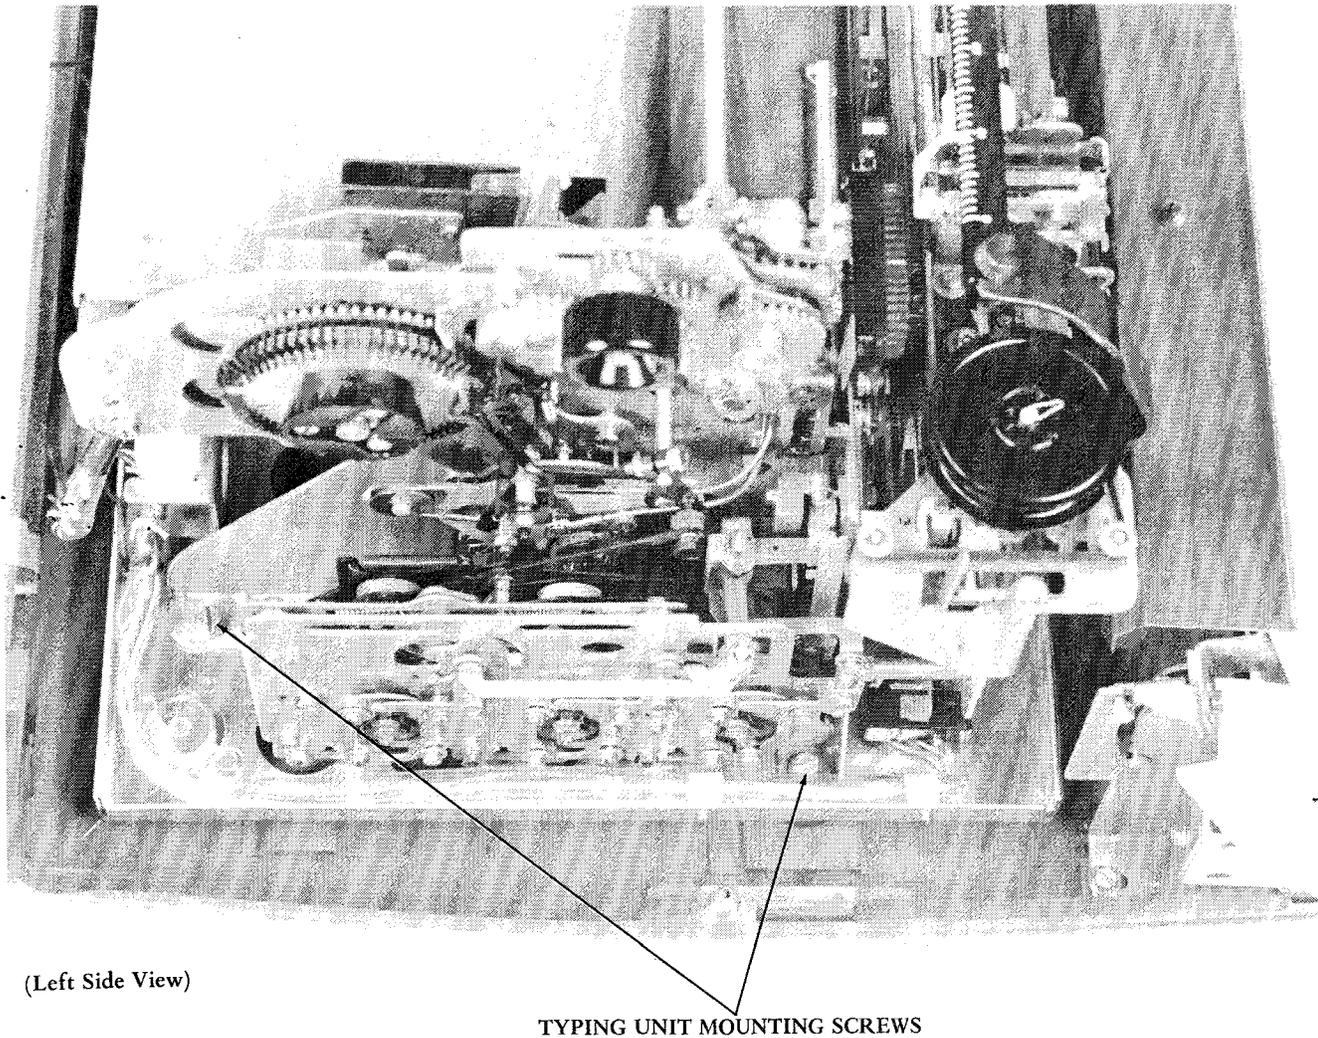

Figure 2 - Typing Unit
2.01 To remove the typing unit from the base, proceed as follows (Figures 2 through 4).
2.02 To replace the typing unit, proceed as follows (Figures 2 through 4).